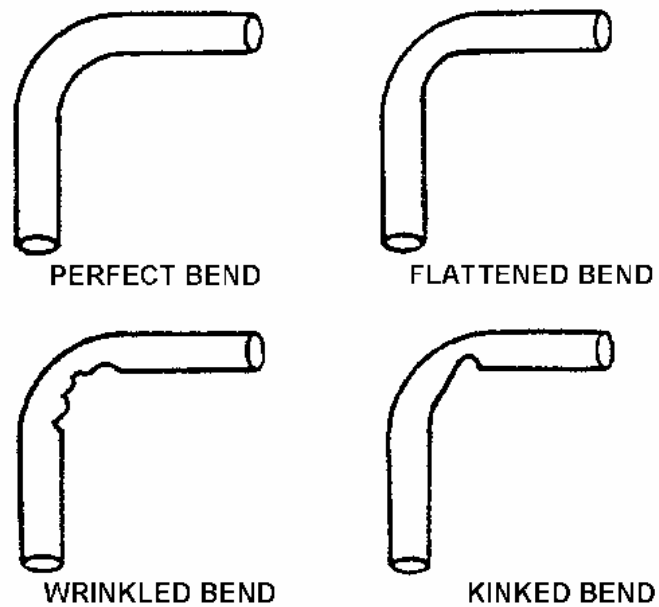

Figure 6. Tubing Bends
12. Bending Requirements. Acceptable and unacceptable bends are shown in Figure 6.